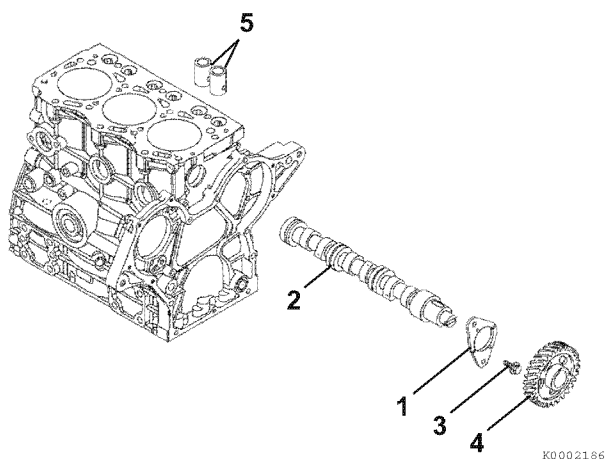

Figure 6-50
- Remove two bolts (Figure 6-50, (3)) retaining the camshaft thrust plate (Figure 6-50, (1)).
- Extract the tappets (Figure 6-50, (5)) through the top of the cylinder block. Mark the tappets so they can be reinstalled in the same location.
- Slowly pull the camshaft (Figure 6-50, (2)) assembly out of the engine being careful not to damage the front camshaft bushing.
- Remove the camshaft gear (Figure 6-50, (4)) only if the gear or camshaft require replacement. Use a knife-edge puller and a press to remove the gear. The gear is a shrink-fit and will need to be heated to 356 - 392 °F (180 - 200 °C) to remove.